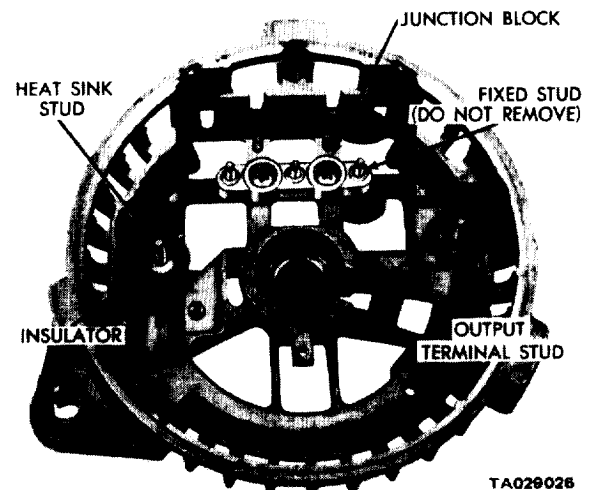

Figure 14-17. Output Terminal Stud and Insulators Installed.
f. If removed, install the output terminal stud and insulator through the end shield. Be sure the mica insulators are in place and undamaged (figure 14-17).